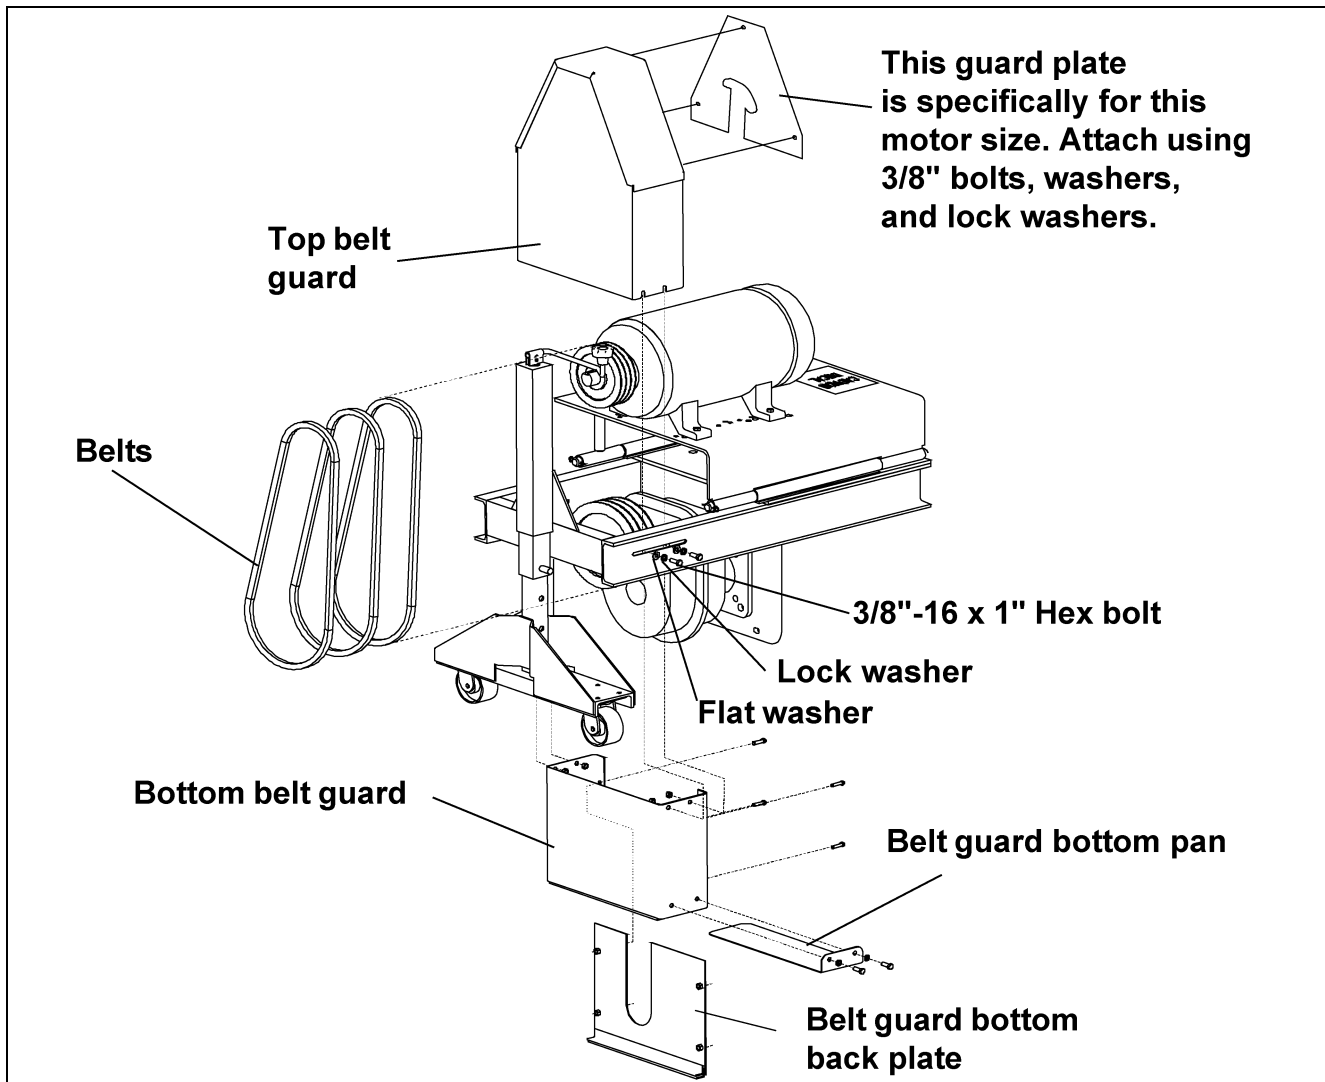

Figure 5Z
F. Carefully install the belts onto the large and small sheaves. (See Figure 5Z.)
- G. Loosely bolt the bottom belt guard to the motor mount using four (4) 3/8"-16 x 1" hex bolts, flat washers and lock washers. (See Figure 5Z.)
- H. Slide the top belt guard over the bottom belt guard as shown in Figure 5Z and tighten bolts.